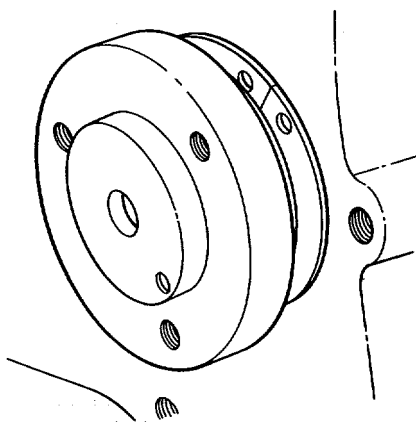

Figure 5-40. Thrust Washers Installed.
- (2) Carefully install the camshaft (8) into the cylinder block, ensuring that cams and journals are not damaged.
- (3) Before the camshaft (8) is fully installed, locate the two thrust washers (6) (see Figure 5-37) (one of which locates on the dowel in the recess) in position on either side of the camshaft hub. When correctly located, the camshaft can be fully installed and will appear as in Figure 5-40.